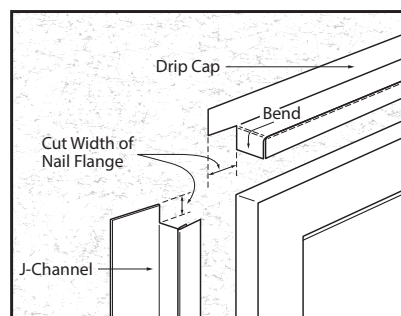
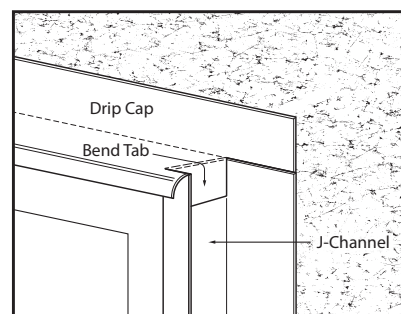

Figure 4.2.1
Figure 4.2.2
- iii. Notch both ends of the drip cap in 3/4" for the flap that will be bent down into the J-Channel on the side of the windows. (Figure 4.2.1) (Figure 4.2.2)